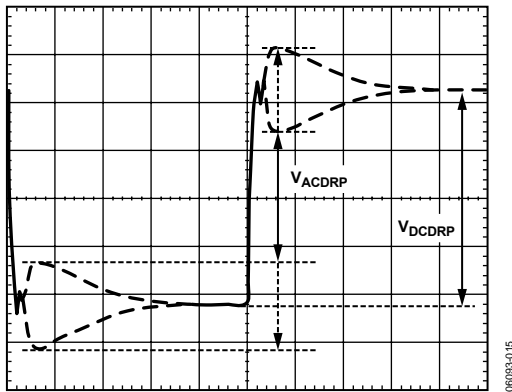

Figure 17. AC Load Line Waveform
- Measure the output waveform (use dc offset on scope to see the waveform). Try to use a vertical scale of 100 mV/div or finer. This waveform should look similar to Figure 17.
- Use the horizontal cursors to measure  $V_{ACDRP}$  and  $V_{DCDRP}$  as shown in Figure 17. Do not measure the undershoot or overshoot that happens immediately after this step.